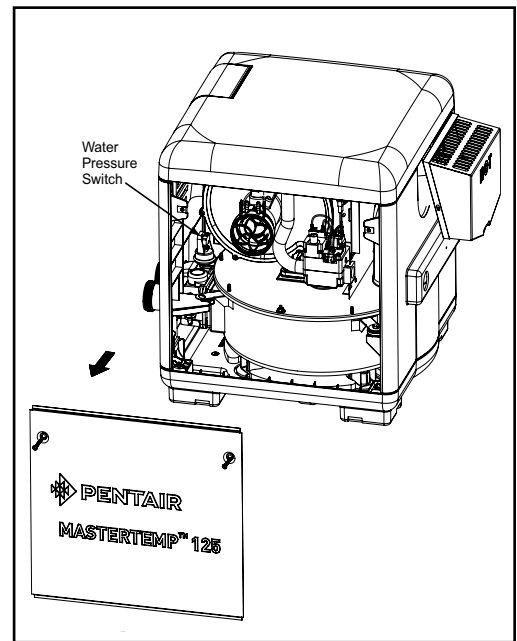
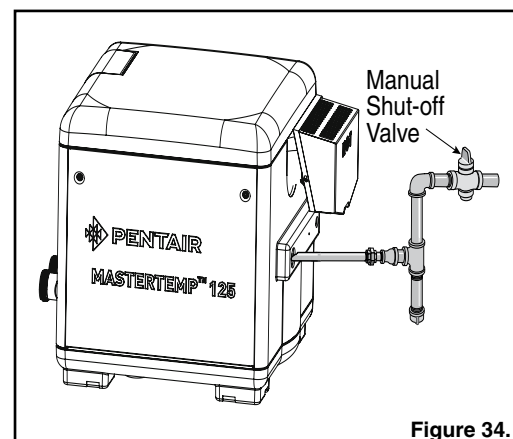

Figure 33.
Figure 34.
2. Unlatch the front door latch and open the front door. Remove the two retaining screws from the High Voltage Cover Panel and remove the panel. See Figure 33.
5. Remove the access door panels by unfastening the two (2) screws located on each door, then lift up and out from the bottom of the panel to remove. If necessary, the screws may be used as handles, see Figure 33.
6. Wait five (5) minutes to clear out any gas. If you then smell gas, **STOP!** Follow “B” in the “Before Start-up” instructions (page 1). If you don’t smell gas, go to the next step.
7. **Turn ON the outside Manual Shut-Off Valve (Figure 34).**
- **Turn OFF the outside Manual Shut-Off Valve (Figure 34).**